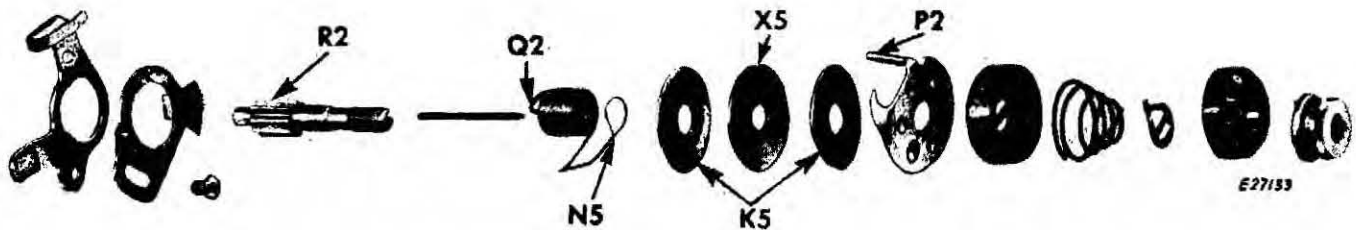
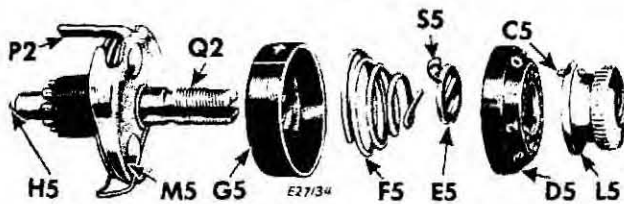
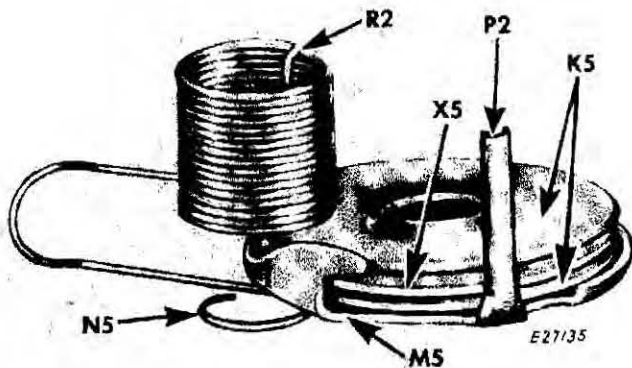

Fig. 306. Needle Thread Tension — Exploded View
Fig. 307. Needle Thread Tension Disassembled
Fig. 308. Tension Disc Assembly
1. Turn thumb nut **L5**, Fig. 307 to left (counter-clockwise) until "0" on numbered dial **D5** stops at center line on indicator **G5**, Fig. 307.
2. Press in dial **D5**, separating pin **C5** in thumb nut **L5** from hole in dial **D5**; unscrew thumb nut **L5** and remove it from stud **Q2**, Fig. 307.
NOTE: It is not necessary to remove stud **Q2** from machine to disassemble the thread tension. It is shown removed in Figs. 306 and 307, to illustrate complete assembly. See page 132 for instructions on removal and replacement of entire tension assembly.
3. Other parts may be removed from the stud **Q2** in the order which they are shown in Figs. 306 and 307.
1. Replace parts on stud **Q2** in the order in which they are shown in Figs. 306 and 307.
2. Make certain that tension releasing pin **H5** is in place as shown in Fig. 307.
3. Place the two tension discs **K5** with their convex faces against flat disc **X5** in center, as shown in Fig. 306. These three tension discs should be behind thread take-up spring thread guard **M5**, as shown in Fig. 307.
4. Pass eyelet **N5**, Fig. 306 of take-up spring under thread guard, having coils of spring above tension discs, as shown in Fig. 308.
5. Guide the tension disc assembly on the stud **Q2**, so that extension **P2**, **Figs. 306, 307 and 308** enters hole, provided for it in machine arm and so that the tail **R2**, **Fig. 308**, inside the spring coil, enters one of the grooves at the rear of the stud **Q2** (see also **page 132**).
6. Replace indicator **G5**, **Fig. 307** with its large open side facing the split end of the stud — with plus and minus mark on top — “minus” at left and “plus” at right.
7. Hold these assembled parts against shoulder of stud, insert tension spring **F5**, **Fig. 307** in indicator, with first half-coil of spring **F5** straddling lower half of split stud.
9. Place the numbered dial **D5**, **Fig. 307** so that the number “2” is opposite stop washer extension **S5**.